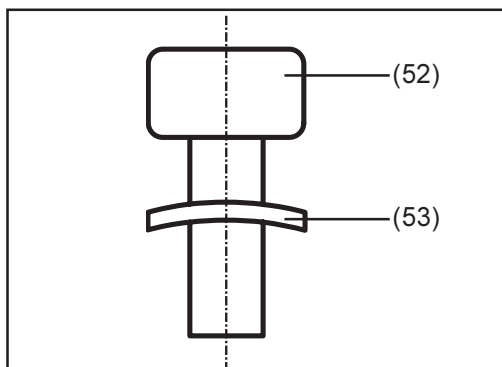

Fig. 15
- Arrange the ribbon cable (42) above the cable harness, as shown in Fig. 15
- Plug the ribbon cable (42) to board FPA15 (5)